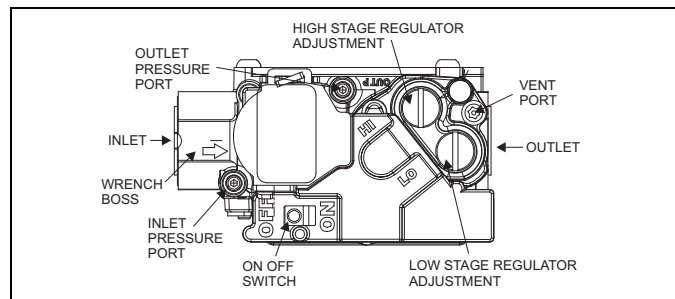

FIGURE 39: Gas Valve
Inlet and manifold gas pressure may be measured by connecting the "U" tube manometer to the gas valve with a piece of tubing. Follow the appropriate section in the instructions below. Refer to Figures 39 for a drawing of the locations of the pressure ports on the gas valve.
1. Refer to Figures 39 for location of pressure regulator adjustment cap and adjustment screws on main gas valve.